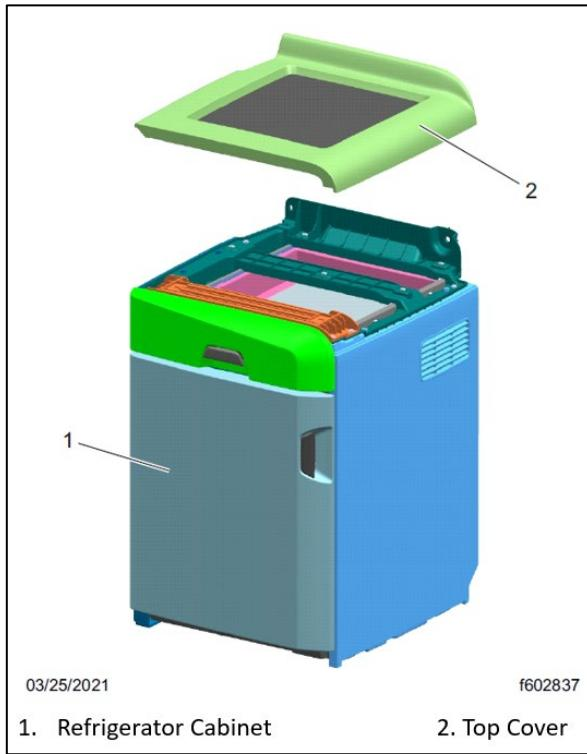

Fig. 35, Refrigerator Cabinet Top Cover
20.2. Install the refrigerator cabinet top cover. See **Fig. 35**.